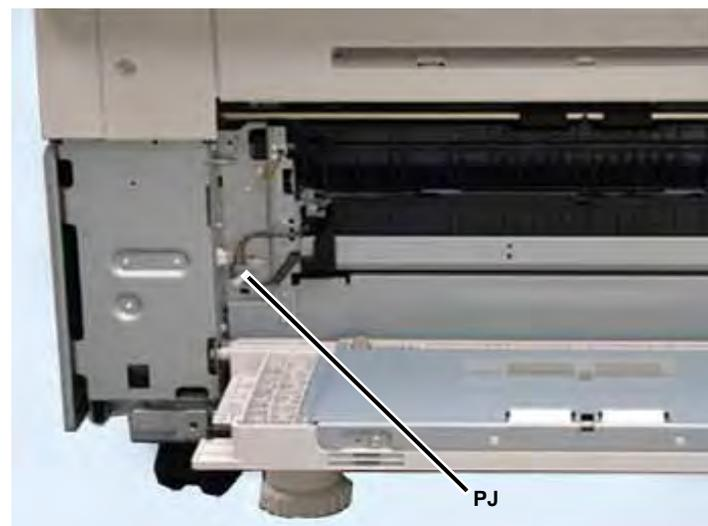

Figure 3 P/J's
5. Disconnect Feeder 3 P/J's (2), and release the harness from the clamp (Figure 3).